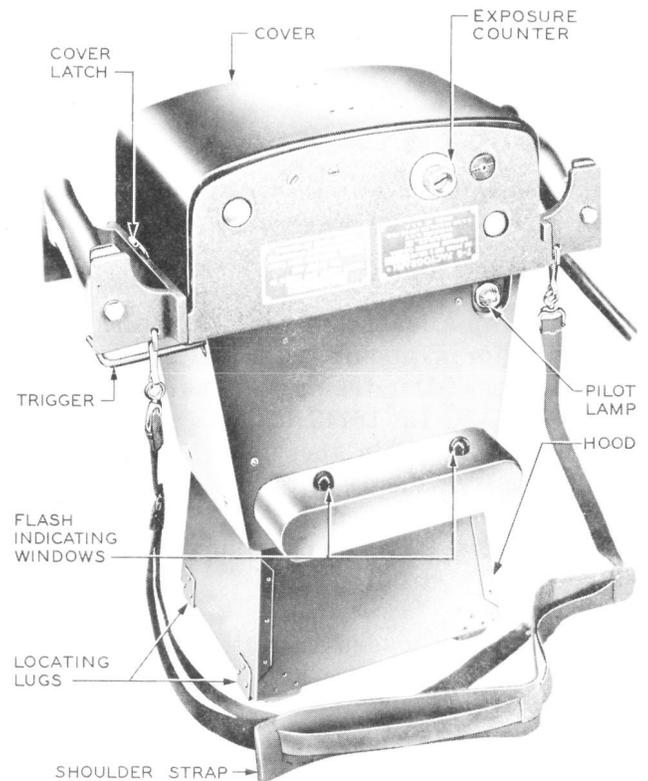
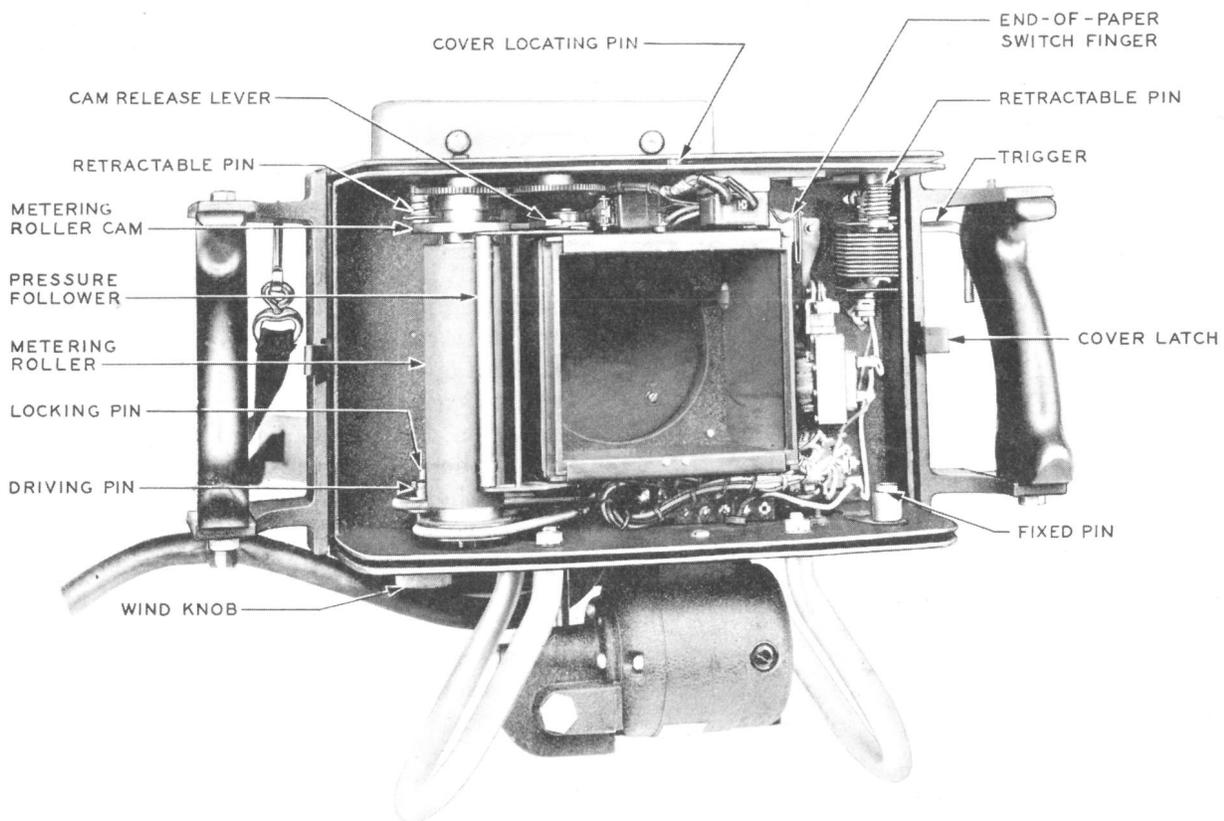
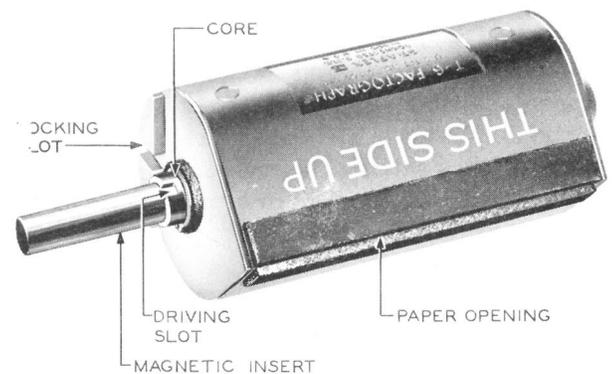

Fig. 4 – Camera With Cover and Shoulder Strap in Place
Fig. 5 – Camera With Cover Removed
Fig. 8 – Empty KS-16148 Cassette (34394-G, cassette) With Magnetic Insert Part Way in Core
age regulating knob on the power unit so that the indicator of the associated meter is within the green range on the meter scale. Check that the pilot lamp on the camera lights (Fig. 4).
4.05 Make sure that the switch on the power unit is in the OFF position and the voltage regulating knob is set to ZERO. This is advisable for safety reasons and to avoid the possibility of line voltage changes subjecting circuit components to excessive voltage when the switch is again turned on. Place the camera with the hood down so that the locating lugs on the edges of the hood rest on the floor, as shown in Fig. 4. Release the camera cover latches and remove the cover from the camera. Remove the empty cassette from the trigger side of the camera (Fig. 5) and put it aside for use as covered in 4.09. To do this, push the cassette against the retractable pin adjacent to the trigger, tilt the cassette slightly, and lift
in 4.05. The magnetic insert should have been inserted in this cassette as covered in 5.09 upon completion of previous use of the camera. The magnetic insert is provided to pull the metal strip on the leading edge of the paper against the core when the paper is inserted into the cassette. This facilitates engagement of the hole in the paper adjacent to the metal strip with a lug projecting from the core which is necessary for winding the paper on the core. Fig. 8 shows a cassette with the magnetic insert part way in the core. This figure also shows the cassette locking slot and driving slots referred to in 4.11.
the retractable pin shown in Fig. 5. Rotate the cassette to move the paper opening away from the roller sufficiently to clear the metering roller cam, and push the cassette against the retractable pin. Then position the cassette so that the locking slot shown in Fig. 8 engages the locking pin in the bottom of the camera (Fig. 5) and the core is against the end of the driving pin. Turn the wind knob on the camera until the driving pin lugs engage the driving slots in the core of the cassette. Check that the cassette is locked in position by the locking pin. Then turn the wind knob counterclockwise to take up any remaining slack in the paper.
4.13 Move the cam release lever (Fig. 5) toward the metering roller until the lever releases the cam and the motor starts. Release the lever and note that the paper is drawn from the loaded cassette, under the guide plate, over
the metering roller, and into the second cassette without binding. Mount the cover on the camera, taking care that the slot in the cover engages the cover locating pin shown in Fig. 5. Make sure that the hole in each cover latch engages the associated pin on the cover.
4.14 Operate the camera three times to bring unexposed paper into position for taking the first photograph. In operating the camera, pull and release the trigger and wait until the motor stops before starting the next operation. Note that both flash indicating windows (Fig. 4) are momentarily illuminated by the flash lamps each time the camera operates. Depress the screw in the center of the exposure counter to disengage the counter gearing and turn the counter, as necessary, to set it to 80. Release the screw and check that the counter gearing is engaged.
5.07 Release the cover latches and remove the cover from the camera. Move the camera release lever (Fig. 5) toward the metering roller and hold it in this position until the motor stops. The motor is stopped by the end-of-paper switch when the switch finger is released by the cutout near the end of the paper. Turn the switch on the power unit to its OFF position and set the voltage regulating knob to ZERO.